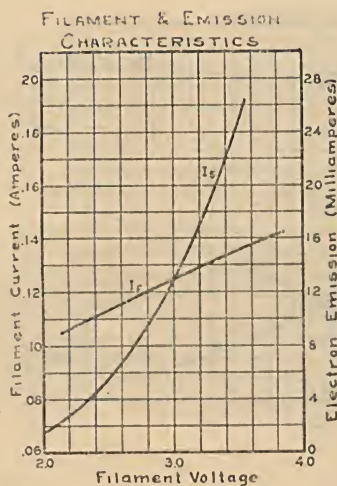

Fig. 6
**Filament Characteristic**—Fig. 6 shows the change of filament current with various filament voltages.